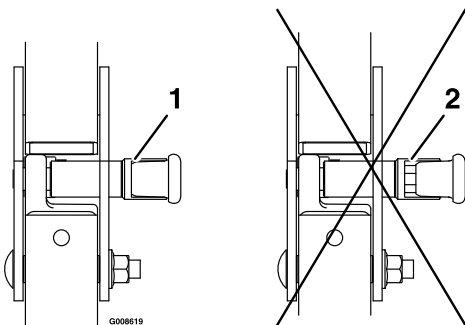

Figure 13
- Make sure the knobs are fully engaged with the roll bar in the raised position. The upper hoop of the roll bar may need to be pushed forward or pulled rearward to get both knobs fully engaged (see Figure 13).